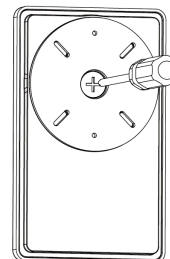

Fig. 2
3. Remove the ½" end cap. (Fig. 2)